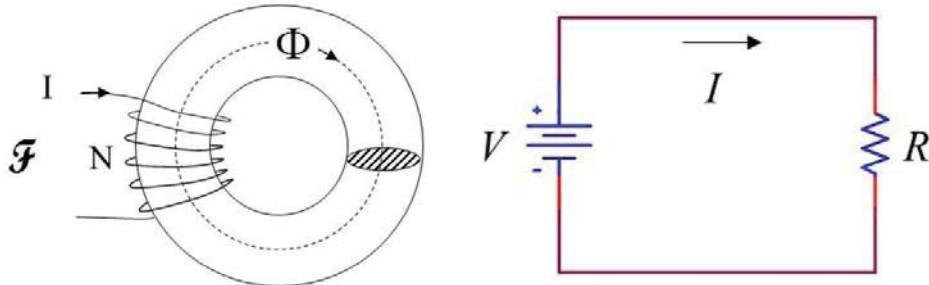

Figure 6.8: A comparison of magnetic circuit elements to those of electric circuit elements
Figure 6.8 shows the analogy between electric and magnetic circuits. The magnetomotive force (\mathfrak{I}), which is equal to the flux (Φ) times the reluctance (\mathfrak{R}), in the magnetic circuit is equivalent to Ohm's law, $V = IR$ in the electric circuit. The mmf (\mathfrak{I}) takes the place of voltage (V), flux (Φ) takes the place of current (I), and reluctance (\mathfrak{R}) takes the place of resistance (R).